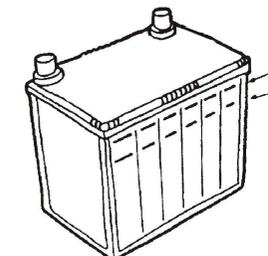

Figure 20
4.2 Check each cell of the battery to see if the electrolyte level of the battery is between the upper and lower level marked on the battery. (Figure 20) or measuring the battery voltage.